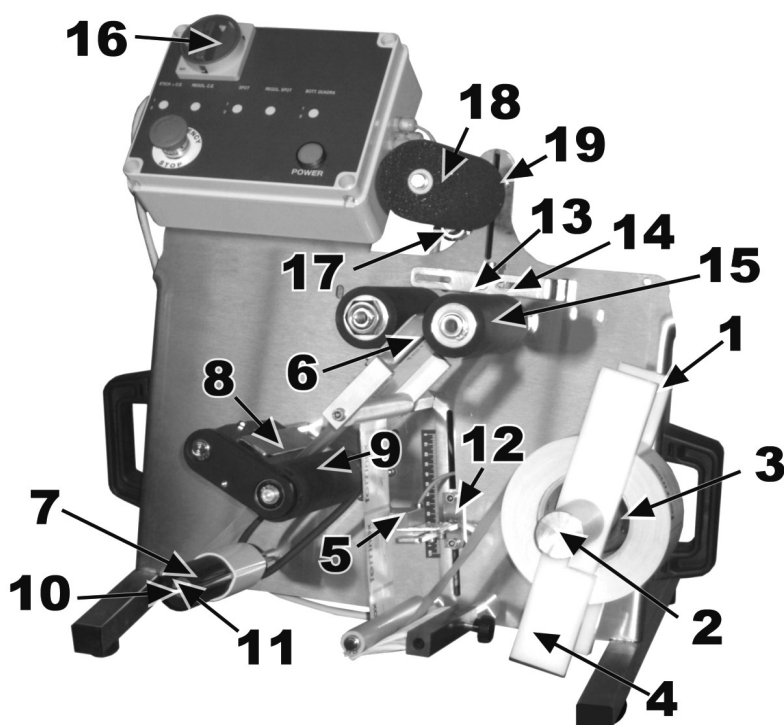

fig. 3
- Position the guide 1 (fig. 3) on the pivot 2, so that the distance between the support and the vertical plane of the machine is 80 mm.
- After having installed the inferior support and having checked his position, insert the label spool in the pivot 2 (fig. 3), putting it on the ring 3. Then put the other support 4 , so that the ring goes inside the hole of the spool.
- Unwrap the paper and let it go around the pivots, following the way that is indicated in the drawing attached on the machine) and arriving near the photocell 5 (fig. 3).
- Pull with hands the part of the paper that goes on the blade, in order to take away labels until the paper arrives at the roller 7 (fig. 3).
- if it comes out less, loosen the screws 12 (fig. 3) and then move the photocell 5 (fig.3) putting it near the blame;
- loosen the screw 13 (fig. 3) that locks the the bottle retainer 14;
- Turn off the general switch (fig. 3) that is on the electrical panel of the labellers;
- pass one hand in front of the sensor 17 (fig. 3). It cause the exit of one label;
- check that the label is about 5 mm out of the blade: if it comes out less, loosen the screws 12 (fig. 3) and then move the photocell 5 (fig.3) putting it near the blame; if it comes out more, make the contrary.
- Turn off the main switch 16 (fig. 3);